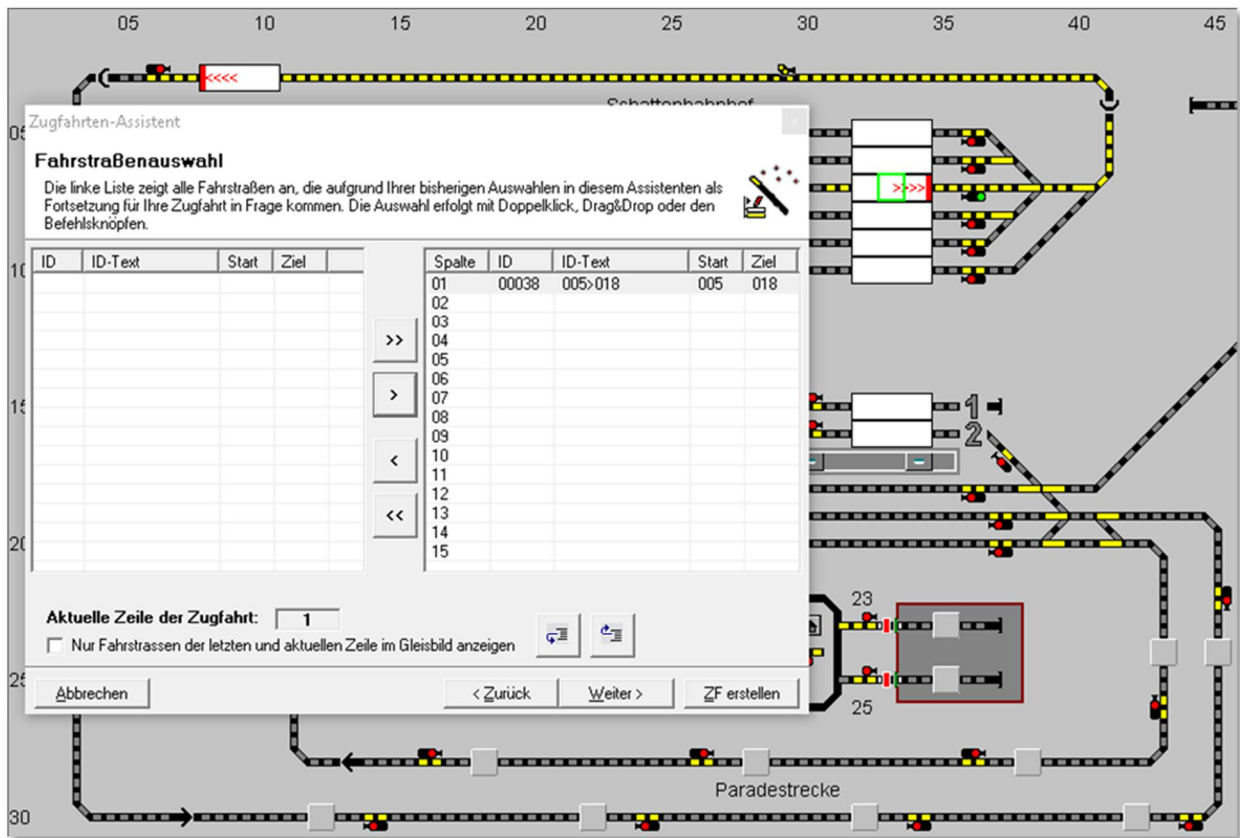

Fig. 7.5 The first route has been added to the tour
The tour can now be continued at the destination contact (018) of the first route we registered before. The tour wizard offers again a route and it can be transferred to the right list using the single arrow button (see Fig. 7.5).